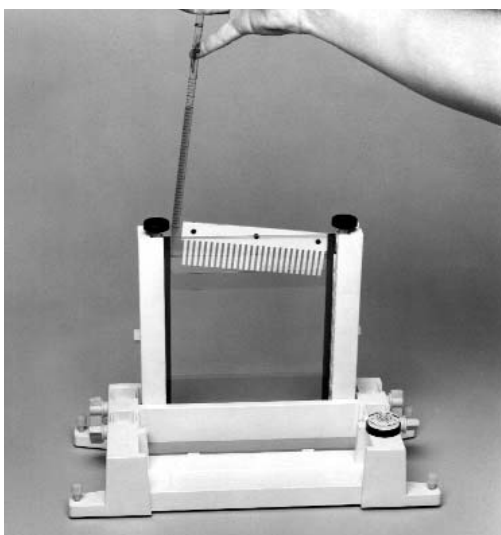

**Fig. 4.26. Aligning spacers in the sandwich assembly.**
5. Place the sandwich assembly in the alignment slot (the slot without cams) of the casting stand with the short glass plate forward (Figure 4.26). Loosen the sandwich clamps and insert an alignment card to keep the spacers parallel to the clamps.
6. Align the plates and spacers by simultaneously pushing inward on both clamps at the locating arrows while, at the same time, pushing down on the spacers with your thumbs. Tighten both clamps just enough to hold the sandwich in place. Pushing inward on both clamps at the locating arrows will insure that the spacers and glass plates are flush against the sides of the clamps (Figure 4.26).